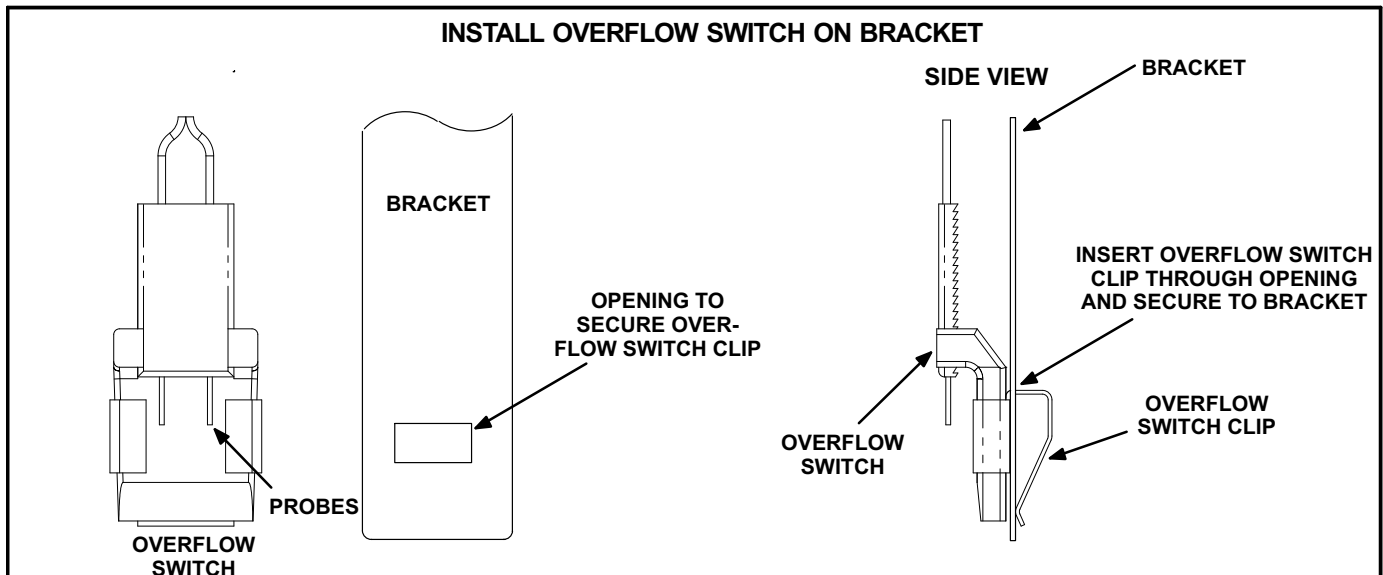

FIGURE 1
- 3- Secure overflow switch to bracket. See figure 1.